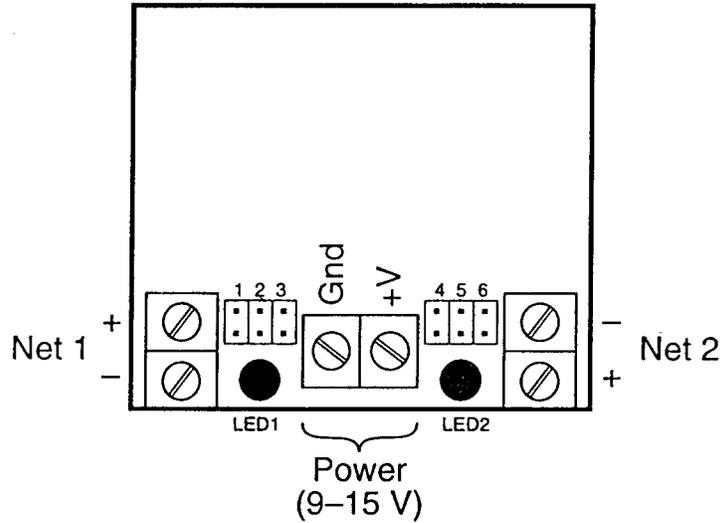

Figure 1
In order to use the RS-485 Repeater five (5) jumpers must be installed to set the baud rate and number of bits per word. Jumper JP2 is used to set the baud rate while JP1 sets the number of bits per word. Figure 1 and tables 2 & 3 below show the locations and settings for the jumpers.
A 9-15 Vdc power supply must be used to power the RS-485 repeater. The power supply is connected to screw terminal block T2 (see fig. 1). Note that the polarity of the terminals is marked on the board. Connecting the power supply incorrectly will not damage the board but it will not work until the connection is corrected.
Network connections are made using screw terminal blocks T1 and T3 (see fig. 1). Please note that the polarity for the terminals is marked on the board. You must observe the correct polarity of the network wires when connecting them to the repeater.